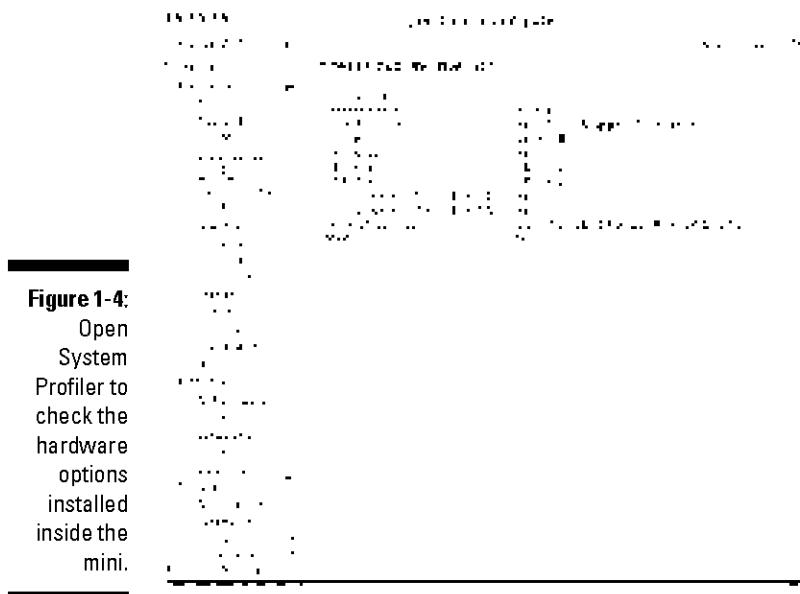

Figure 1-4:
2. The System Profiler utility opens, as shown in Figure 1-4.
Figure 1-4 shows that this Mac mini can.